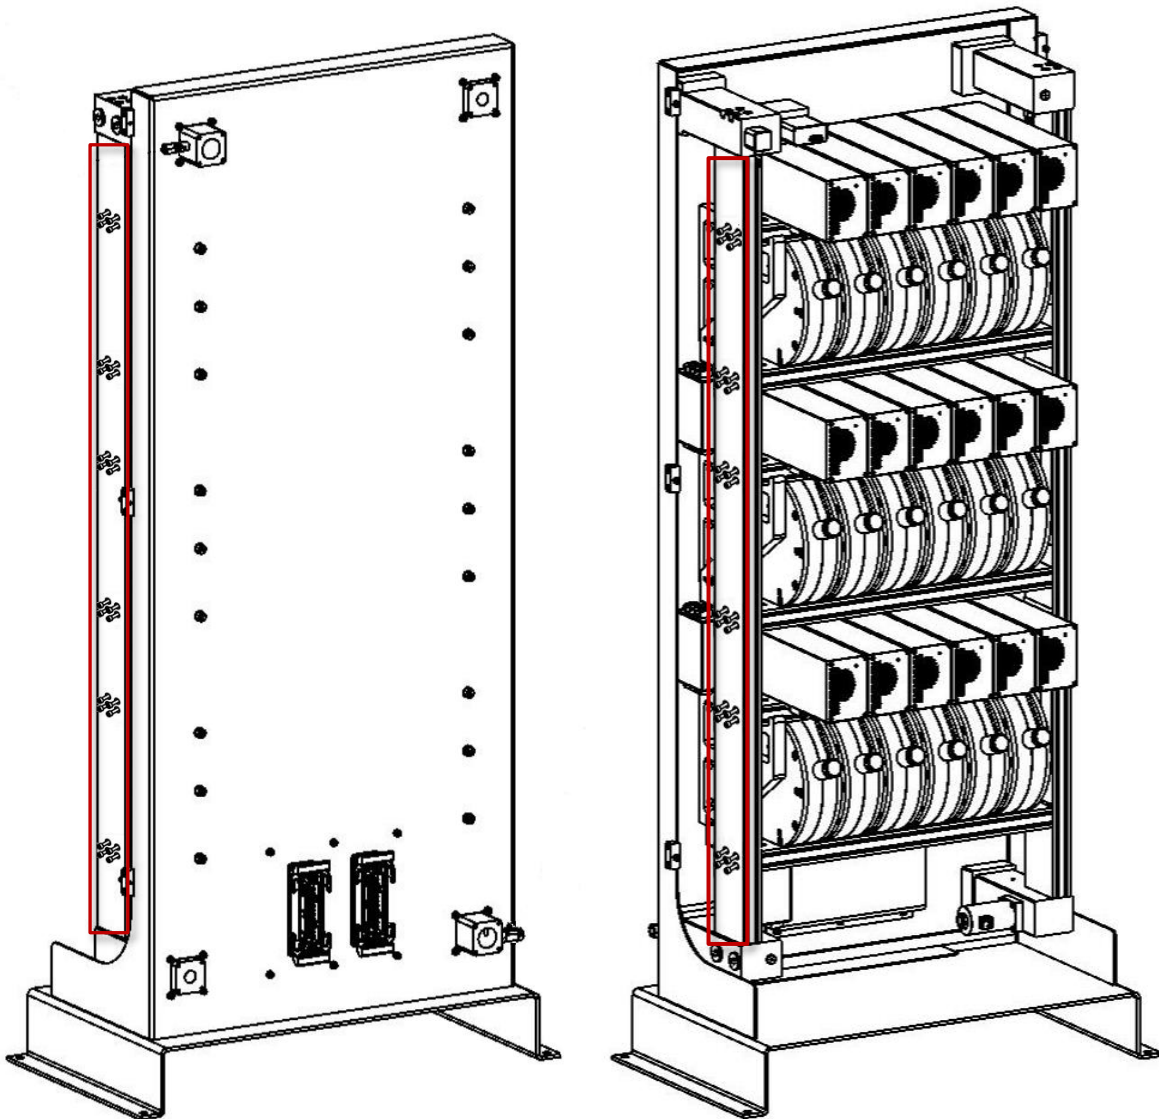

Figure 84 Loosen screws on vertical bars
11. Loosen all the screws (M6) on the vertical bars 5 mm, that is, on both sides of the generator, see Figure 84.